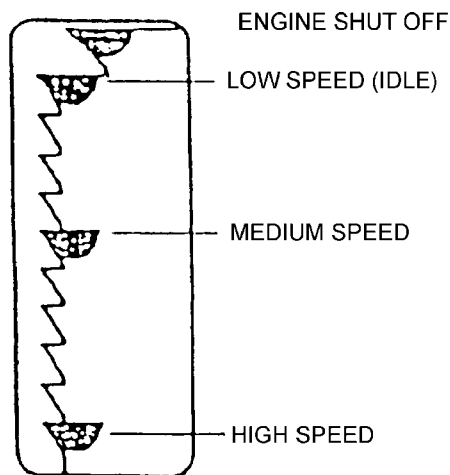

Fig. 4.15. Engine Speed and Shut Down Control Lever
4. Move the engine speed control lever to low speed (idle) position (Fig. 4.15).
1. Perform all activities as described in item 1 to 3 and 5 to 6. Refer to NORMAL START.
2. Place engine speed control lever in OFF position (Fig. 4.15).
7. Perform all activities as described in item 8 to 9. Refer to NORMAL START.